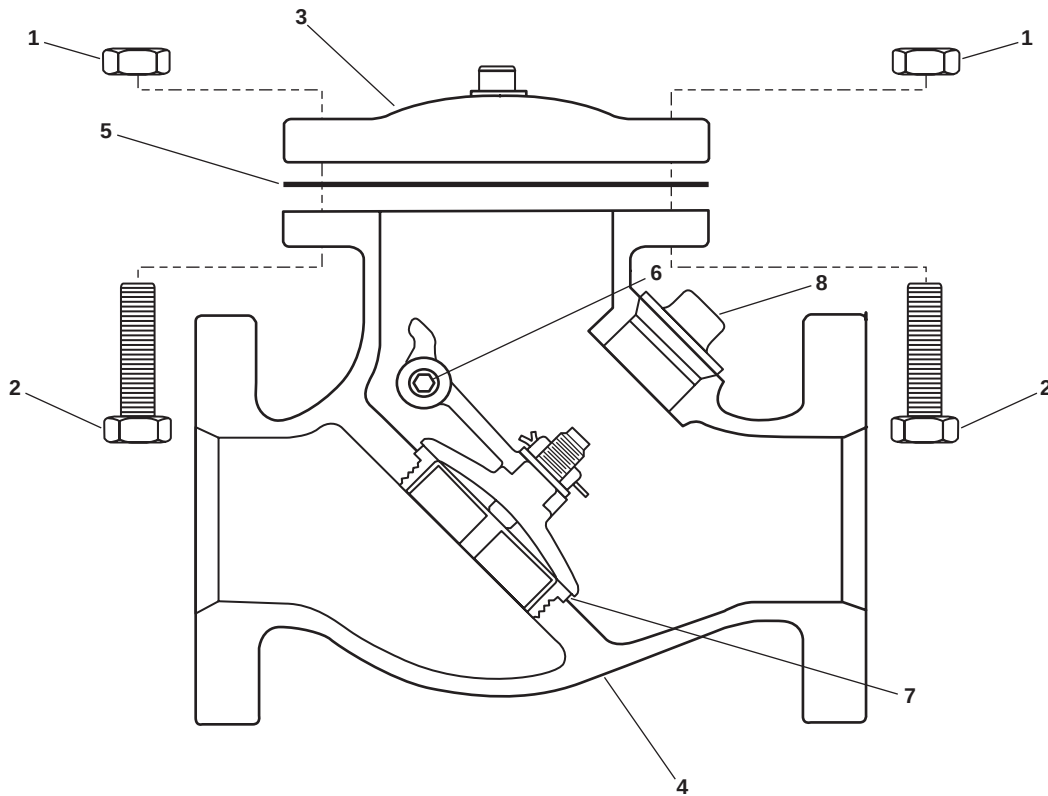

Figure 3. Flanged Check Valve
1. Remove the nuts (figure 3, item 1) and bolts (figure 3, item 2), and remove the cover (figure 3, item 3) from the valve body (figure 3, item 4).
2. Remove the gasket (figure 3, item 5) from the cover (figure 3, item 3). Discard the gasket.
3. Remove the valve hinge pin (figure 3, item 6), and valve seat (figure 3, item 7). Discard the valve seat.
4. Remove the plug (figure 3, item 8) from the valve body (figure 3, item 4).
2. Clean the parts of the valve (figure 3, item 4) using clean wiping rags and water.
3. Install a new valve seat (figure 3, item 7) and secure it inside the valve body (figure 3, item 4) with the valve hinge pin (figure 3, item 6).
4. Install a new gasket (figure 3, item 5) on the cover (figure 3, item 3) and secure it to the valve body (figure 3, item 4) with the nuts (figure 3, item 1) and bolts (figure 3, item 2).
5. Install the plug (figure 3, item 8) in the valve body (figure 3, item 4).